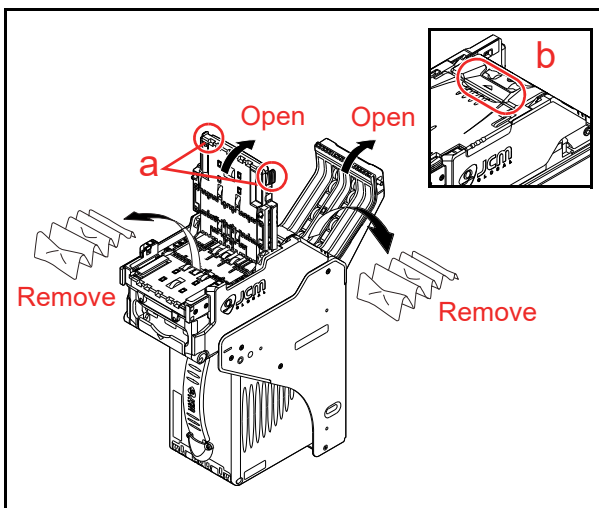

Figure 12 Clearing a Banknote Jam 1
1. Open the Validator Unit's Upper Guide by pressing in on the two (2) Upper Guide Access Levers (Front) (Figure 12 a), and lift the Validator top up and open.
3. Open the Transport Unit's Upper Guide by pressing in on the Upper Guide Access Lever (Figure 12 b) located in the center of the Upper Guide, and lift the Transport Section up and open.